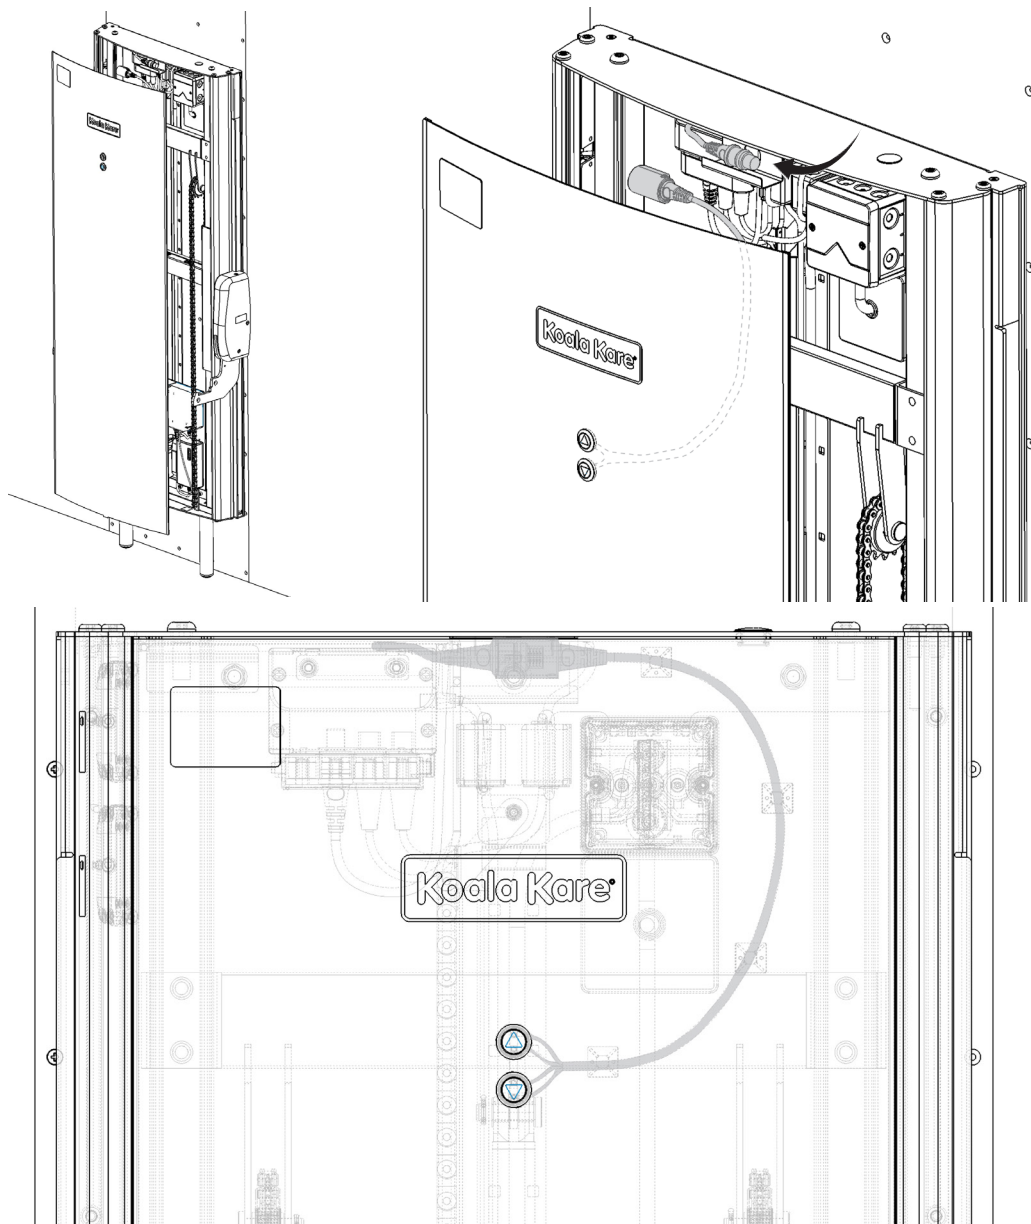

Fig 12.6a
- As the cover is located into the SBU, ensure that the fastened connector sits within the metal bracket at the top of the unit, shown in Fig. 12.6a.